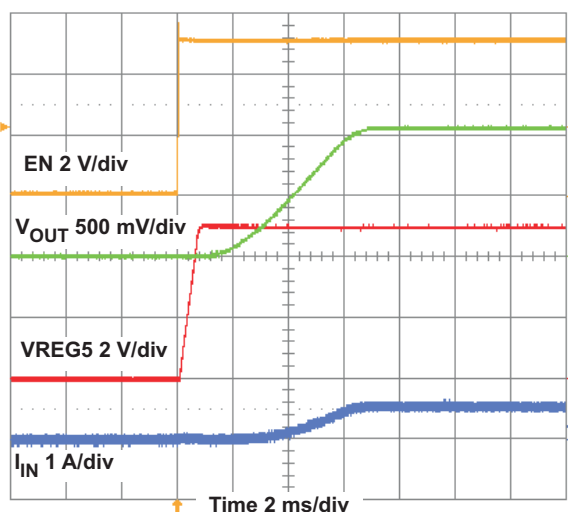
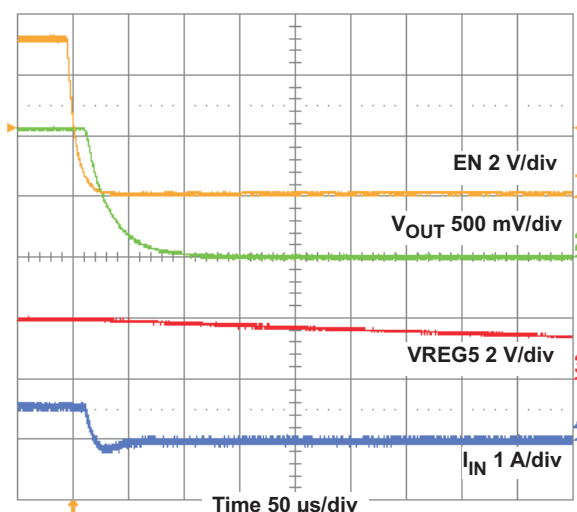

Figure 14. TPS54428EVM-052 Start-Up Relative to EN
Figure 15. TPS54428EVM-052 Shut-down Relative to EN
The TPS54428EVM-052 start-up and shut-down waveforms relative to enable (EN) with no load are shown in Figure 14 and Figure 15.